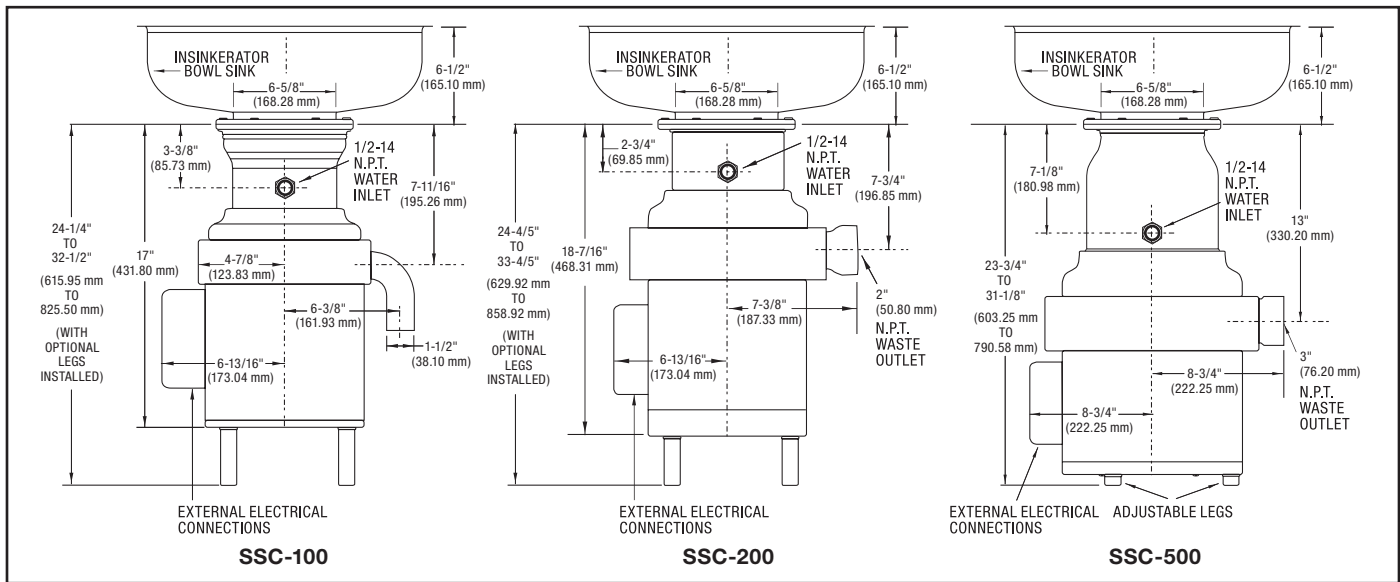

Figure 2. Distance from Table Top to Mounting Flange
- For safe operation, install the disposer in compliance with the minimum distance illustrated in Figure 2.